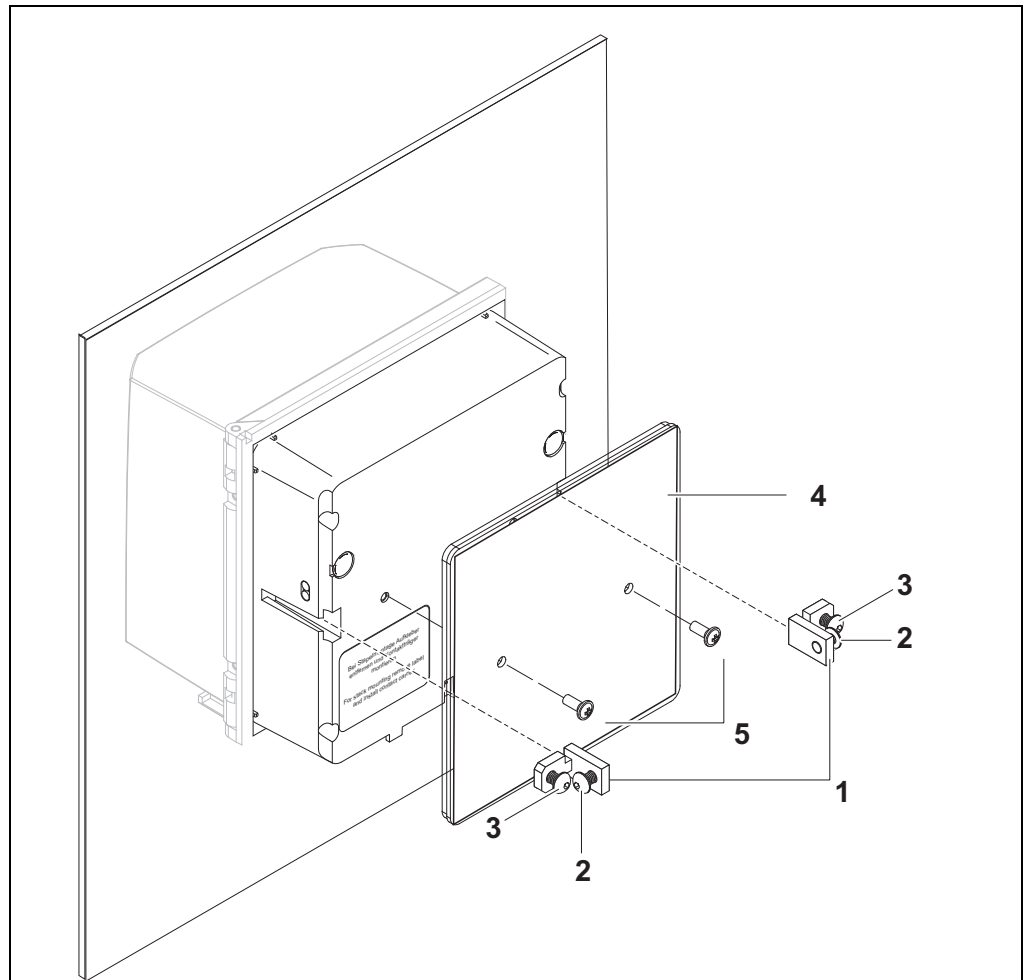

figure 3-24 Mounting the DIQ/S 281 in a switch panel
- 2 Slightly unscrew the bolts (pos. 2 and 3) of the two angle brackets (pos. 1 in figure 3-24), but do not remove them.
- 3 Push in the two angle brackets - as shown in figure 3-24 - into the lateral guides of the universal transmitter up to the stop.
- 4 Tighten the bolts (pos. 2).
- 5 Screw in the bolts (pos. 3) until the bolts rest snugly against the panel.